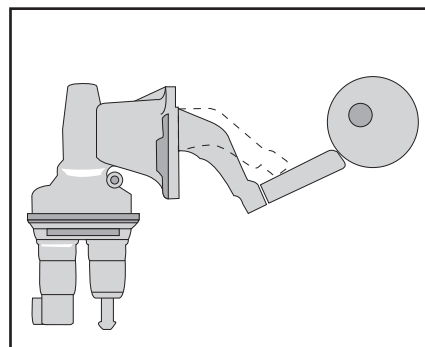

Figure 3
- Some models may use a push rod to activate the pump (see figure 3 and 4). Clean and inspect the push rod for wear or replace as needed.